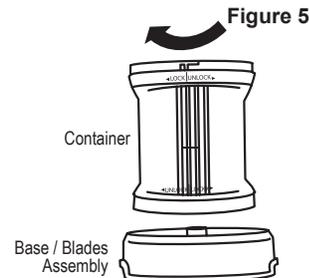

Figure 5
5. Align the grooves on the bottom of the Container (clear) with the notches in the newly assembled Base. Twist the Locking Ring until the groove and notch click into place (Figure 5).